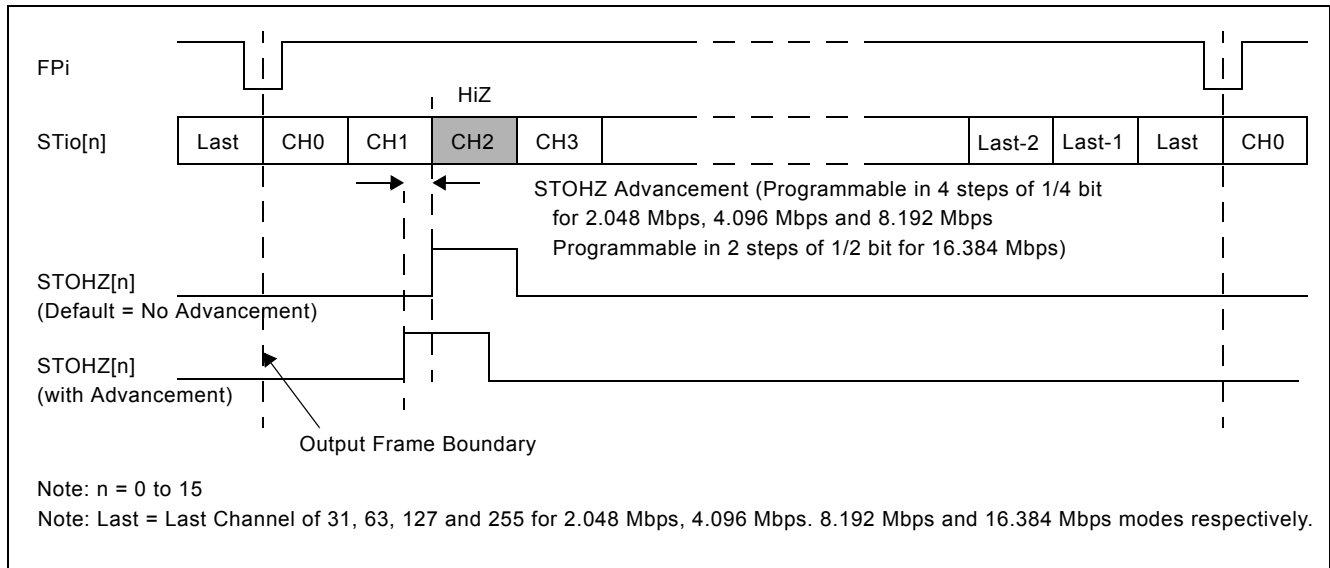

Figure 16 - Channel Switching External High Impedance Control Timing
There are 16 external high impedance control signals, STOHZ0 - 7, that are used to control the external drivers for per-channel high impedance operations. Only the first eight ST-BUS/GCI-Bus (STio0 - 7) outputs are provided with corresponding STOHZ signals. The STOHZ outputs deliver the appropriate number of control timeslot channels based on the output stream data rate. Each control timeslot lasts for one channel time. When the ODE pin is high and the OSB (bit 2) of the Control Register (CR) is also high, STOHZ0 - 7 are enabled. When the ODE pin, OSB (bit 2) of the Control Register (CR) or the RESET pin is low, STOHZ0 - 7 are driven high, together with all the ST-BUS/GCI-Bus outputs being tristated. Under normal operation, the corresponding STOHZ outputs of any unused ST-BUS/GCI-Bus channel (high impedance) are driven high. Refer to Figure 16 on page 27 for a diagrammatical explanation.